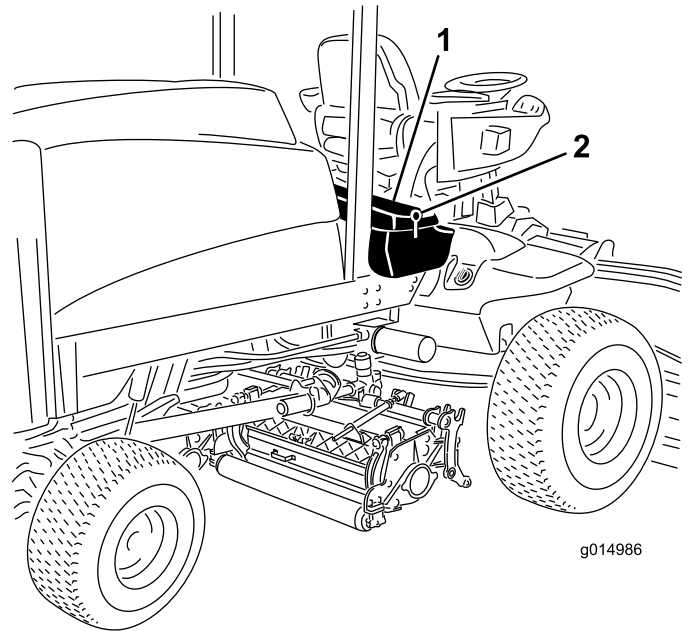

Figure 61
1. Unlatch and raise the operator's console panel (Figure 61).